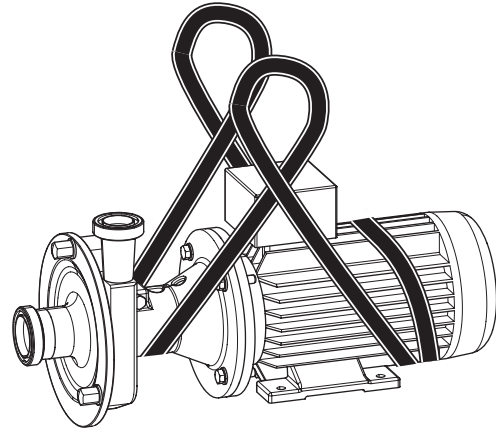

Fig. 14 Moving with crane
- Wrap the round sling twice around the back end of the motor. Do not lay over the fan shroud (see Fig. 14 Moving with crane).